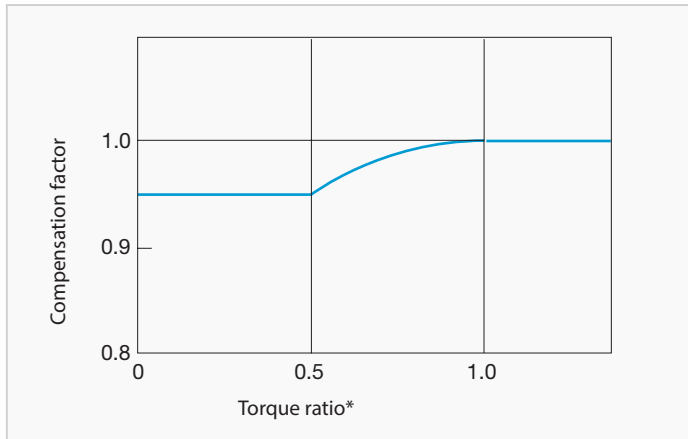

Fig. T-3 Compensation curve for efficiency
1. The efficiency changes if the load torque does not match the nominal torque. Check the compensation factor in the diagram Fig. T-3.
2. When the torque ratio is over 1.0, the compensation factor for efficiency is 1.0 (diagram Fig. T-3).